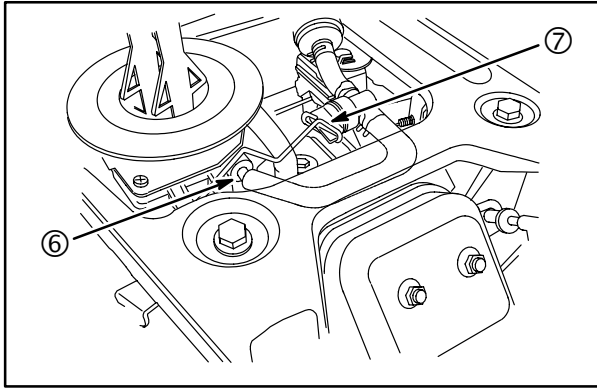

Fig. 10
5. Lift the fuel tank. Disconnect the fuel hose from the carburetor fuel inlet (6), **Fig. 10**. Remove the fuel valve shut-off knob from the shut-off link (7).